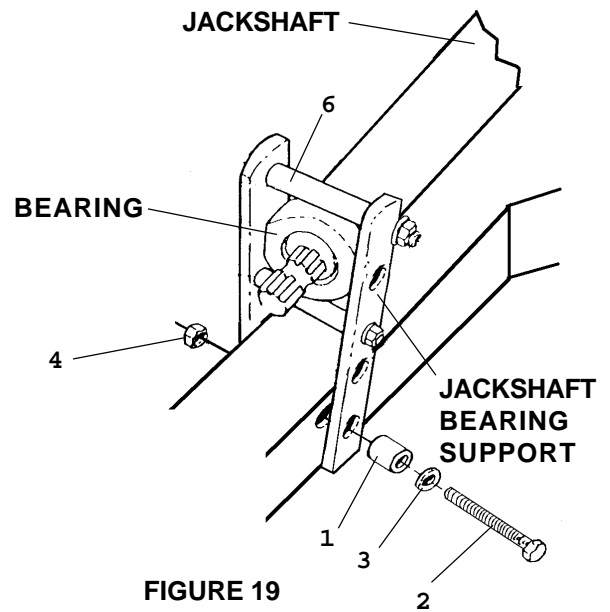

FIGURE 19
Insert the splined end of jackshaft into the Bearing Support, (**Figure 19**), and attach the Jackshaft Bearing Support to the Tongue Lugs as shown. Insert bushing (item 1) into Bearing Supports, install 5/8 x 8 capscrew (item 2) with flatwasher (item 3) against bushing, and install locknut (item 4) and tighten securely.